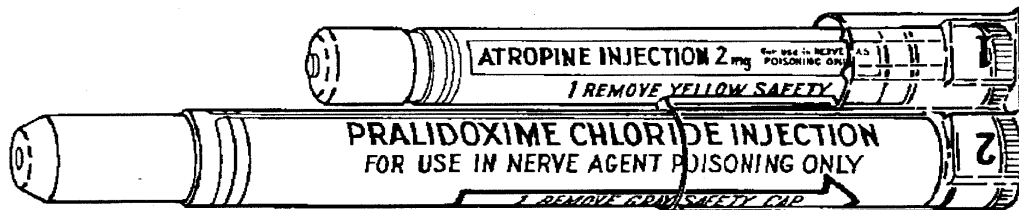
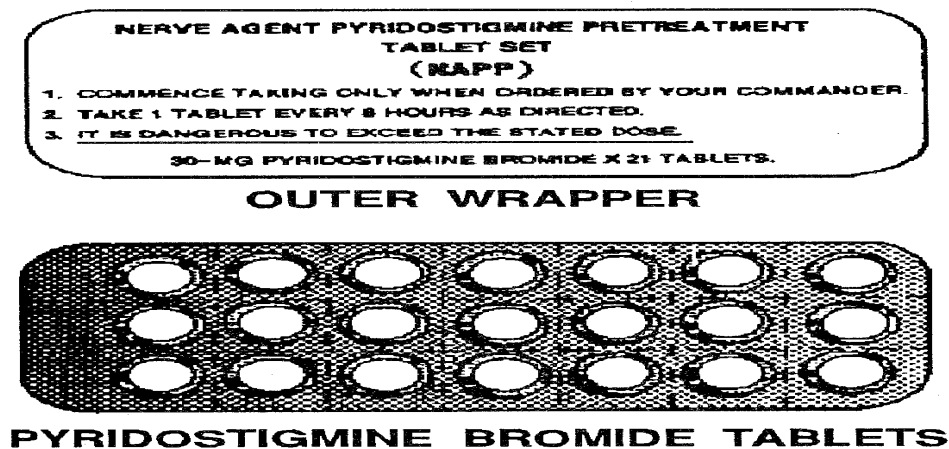

Figure 6-16. Mark I Kit
Figure 6-17. Pyridostigmine Pretreatment Tablet
a. Nerve agent poisoning requires immediate first-aid treatment. Soldiers receive three NAAKS, Mark I (Figure 6-16), for this purpose. Soldiers may become subjected to nerve agent poisoning on the battlefield. Immediate treatment with the NAAK is required if they are to survive. The NAAK consists of one small autoinjector containing atropine and a
b. The nerve agent pretreatment Pyridostigmine (NAPP) (Figure 6-17) is an adjunct to the NAAK (Figure 6-16). When used in conjunction with the NAAK this pretreatment enhances the survivability of the soldier in a nerve agent chemical environment. Each soldier is initially issued one NAAK, which he is responsible for carrying and safeguarding against loss. He will secure the NAPP in the sleeve or breast pocket of the BDO. Soldiers will begin taking their NAPP tablets when ordered by their commander based on his assessment of possible agent exposure within the next few hours or days. One tablet is to be taken on a continuous basis once every eight hours until all 21 tablets have been taken or the soldier has been directed to discontinue taking the tablets. NAPPs should be stored/refrigerated in temperatures ranging from 35F to 46F. If the medication is removed from the refrigerator for a total of six months, it should be assumed that it has lost its potency and should not be used.